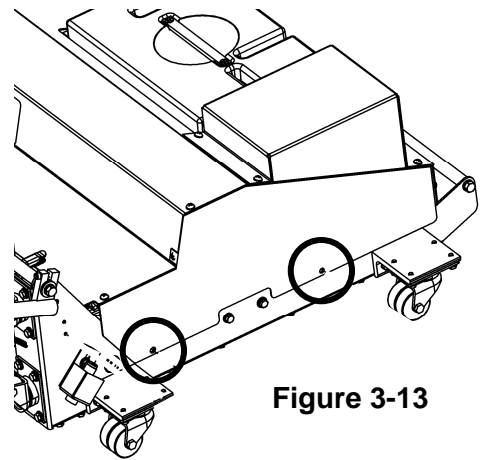

Figure 3-13
1. Remove the screws on each side of the hood, as shown in Figure 3-13, and lift the hood off the frame. Set aside the screws.